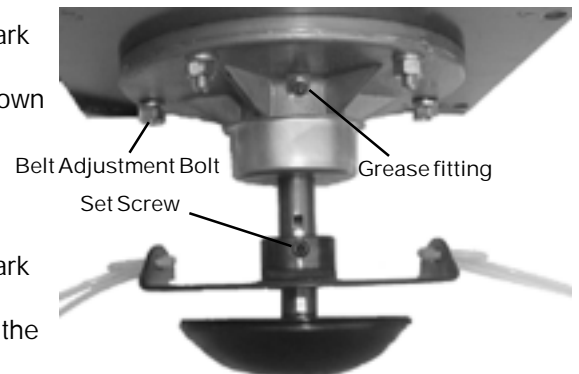

Figure 7
3. Use the allen wrench found in the parts bag to loosen the set screw shown in Figure 7.
2. Use a grease gun with a good grade of automotive grease to lubricate the jackshaft using the grease fitting (See Figure 7).
4. Loosen the bolts that hold the trimmer head and jackshaft to the trimmer under body (See Figure 7).